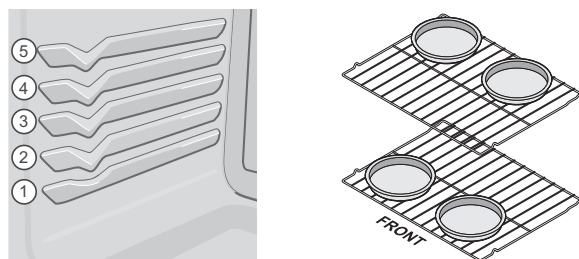

Figure 21: Rack positions and pan spacing recommendations
- For best results when baking cakes using two oven racks, place racks in positions 2 and 4. When baking using two oven racks, position bakeware as shown in Figure 21. Allow at least 2 inches (5 cm) of space between bakeware for proper air circulation.